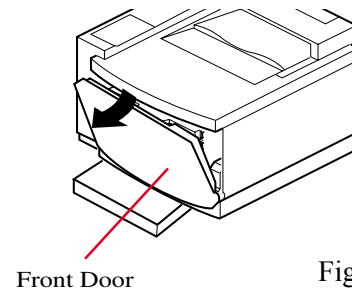
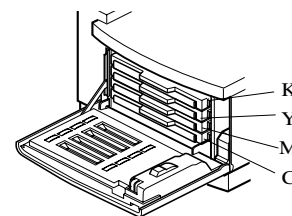

Fig. 3-13
Fig. 3-15
3.3.3 Procedures for installation of the toner cartridges (see Fig. 3-13 to Fig. 3-15)